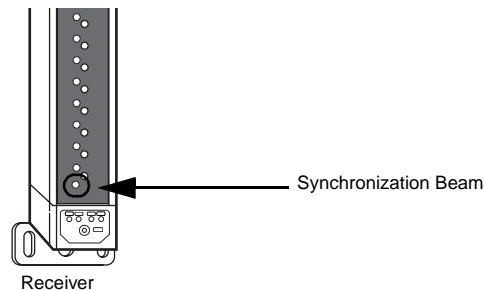

Figure 9: Synchronization Beam
2. Verify that the synchronization beam (see Figure 9) is not obstructed.